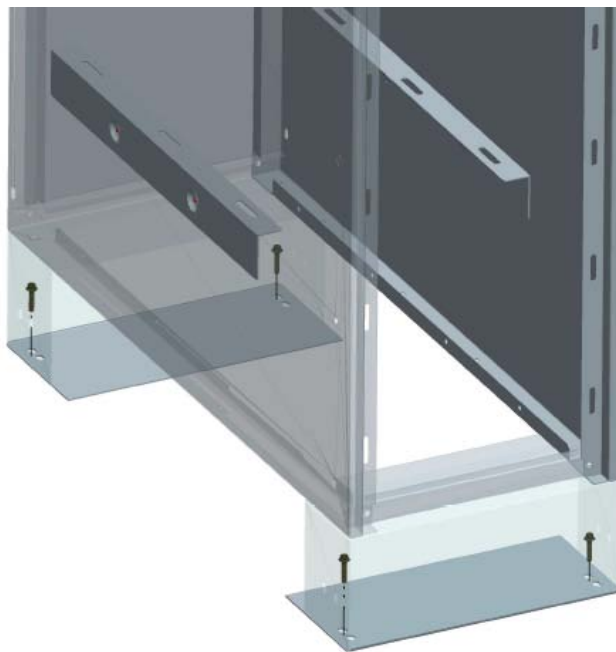

Figure 7: Erection: Anchoring of a DF-3 cubicle
- Anchor this second cubicle using the 4 bolts to the floor. Use therefore the holes intended for this purpose, as shown in Figure 7